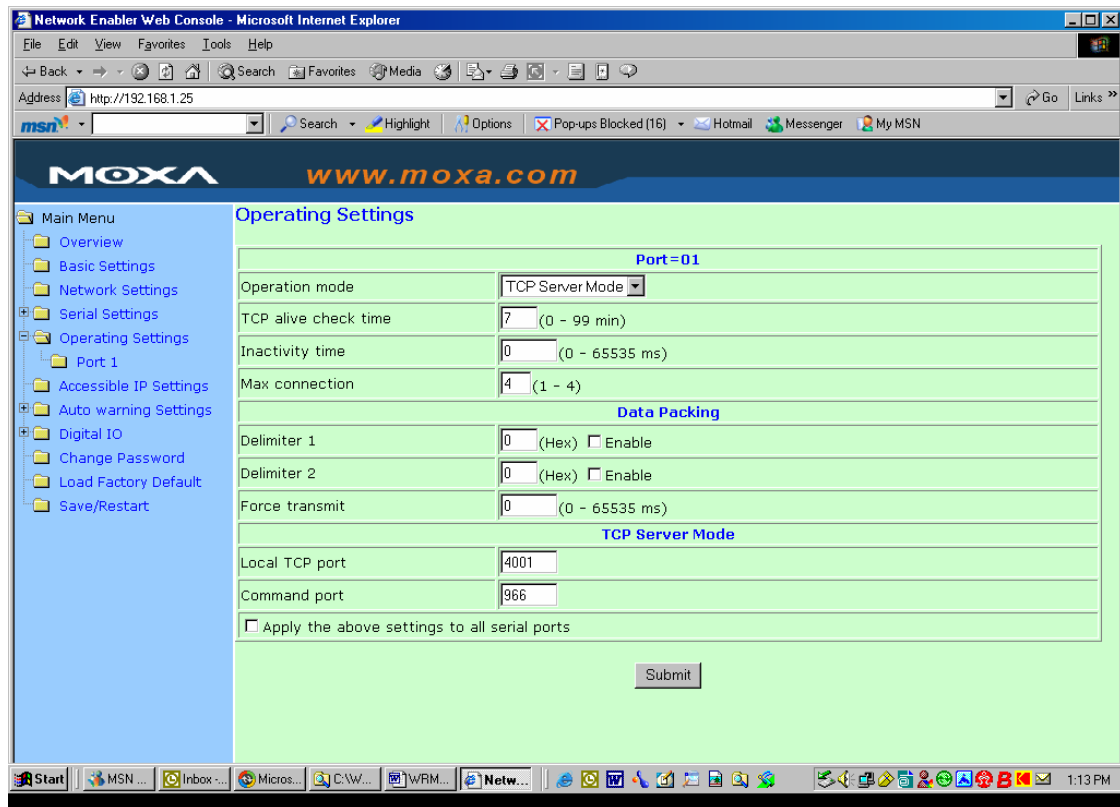

Figure A2-7: Operating Settings (Web Console)
14. From this screen go to Operating Settings, Port 1 and set the Max Connection to 4 as shown in **Figure A2-7** and select the Local TCP Port to be used in WinWRM2 or Telecast configuration. The default value is 4001.